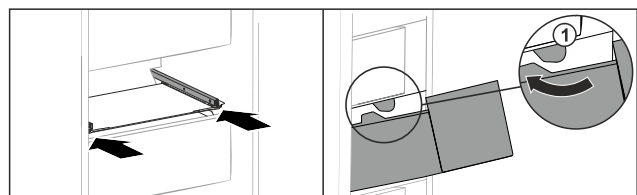

Fig. 150
- Guide drawer around the stoppers *Fig. 150 (1)*.